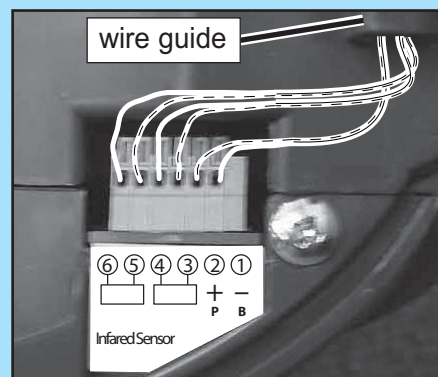

FIG. 4-8 Insert wires.
- Insert wire into terminal holes and lightly press in the orange locking clips above each terminal hole. (You can use a pencil or small screwdriver to comfortably reach in and lightly press down locking clips.) Insert white wires to 'even' numbered terminal holes and striped wires into 'odd' terminal holes (Fig. 4-8).